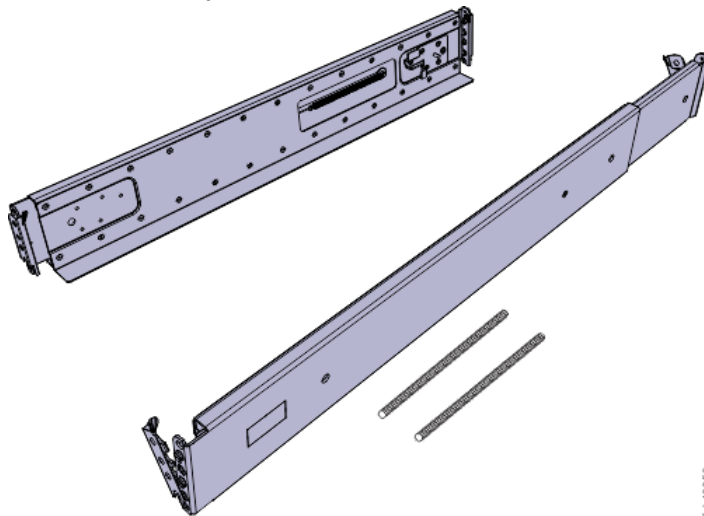

Figure 30. Expansion enclosure support rails
1. Locate the expansion enclosure rails (Figure 30 on page 69).